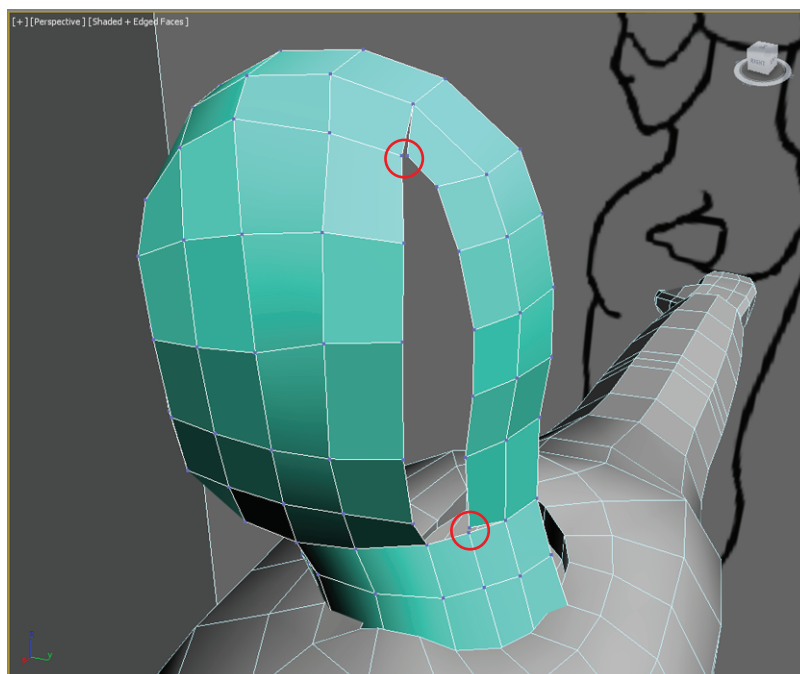

FIGURE 9.15 Use Target Weld on the loose vertices.
4. Switch to Vertex mode and use Target Weld to weld the loose vertices at the top and bottom, as shown in Figure 9.15.